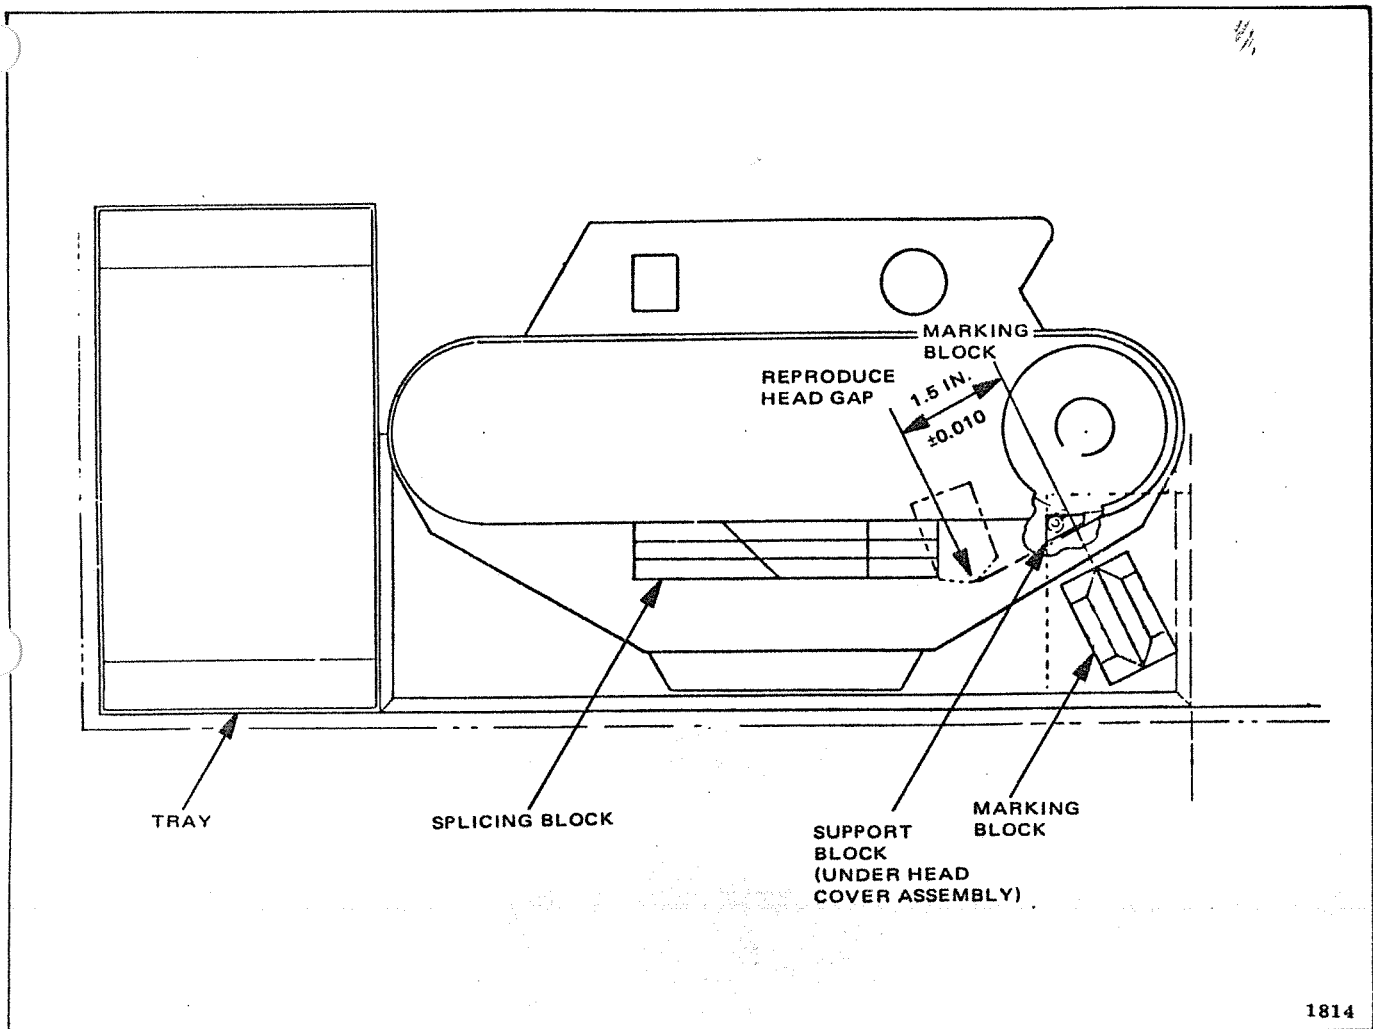

Figure 6. Support Block Mounting, Location
31. Align marking block V 1.5 ( $\pm 0.010$ ) inch from reproduce head gap (see Figure 6).